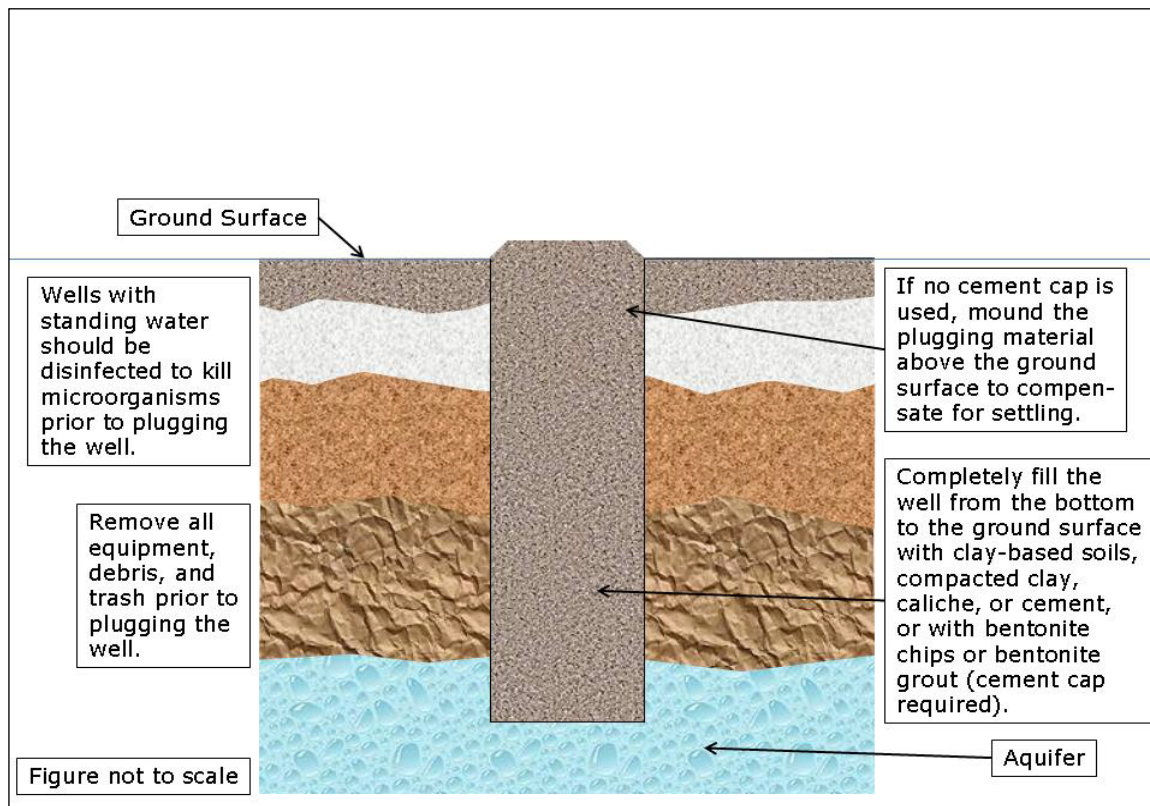
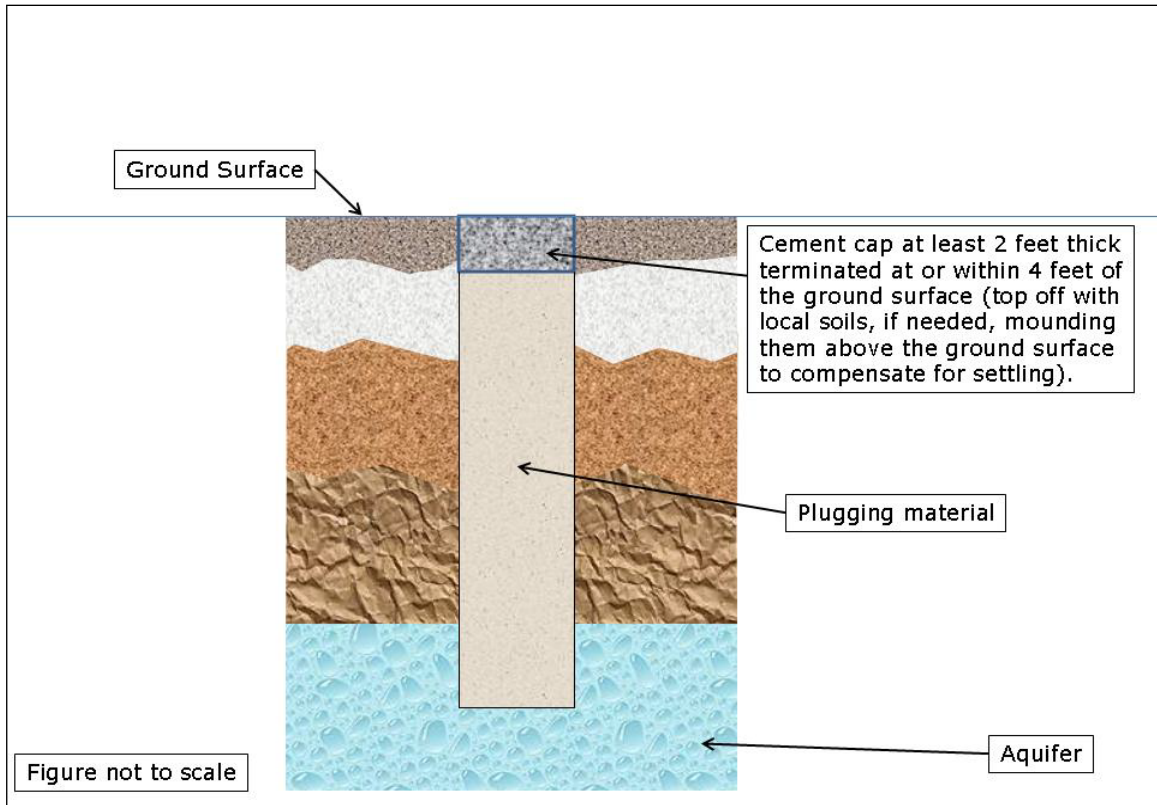

Figure 1. Plugged Large-Diameter Well
Figure 2. Plugged Well Using Bentonite Chips or Bentonite Grout
Completely fill the well from the bottom to the ground surface with clay-based soils, compacted clay, caliche, or cement (see Figure 1), or with bentonite chips or bentonite grout (cement cap required; see Figure 2).
- If using bentonite chips or bentonite grout, the plug must be capped with cement at least two feet thick. The cement cap acts as an atmospheric barrier (see Figure 2) and can be positioned in either of two ways:
- If using bentonite chips or bentonite grout, the plug must be capped with cement at least two feet thick. The cement cap acts as an atmospheric barrier (see Figure 2), and can be positioned in either of two ways:
- If using bentonite grout, the plug must be capped with cement at least two feet thick. The cement cap acts as an atmospheric barrier (see Figure 2), and can be positioned in either of two ways: